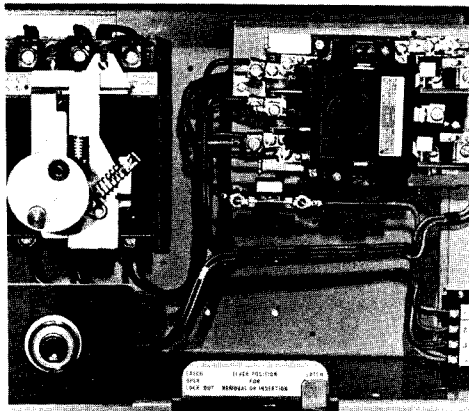

Fig. 11. Control Unit in Operating Position
1. Push the lower release lever to the right with the thumb of the right hand. This should be immediately followed by a push with the right forefinger on the latch lever toward the "latch open" position. Spring action will snap the latch lever to the "lockout position". Grasp the handle and pull the unit partially out until it locks in the lockout position. The bus stabs are then disconnected and power is removed from the unit. (Refer to Fig. 11)